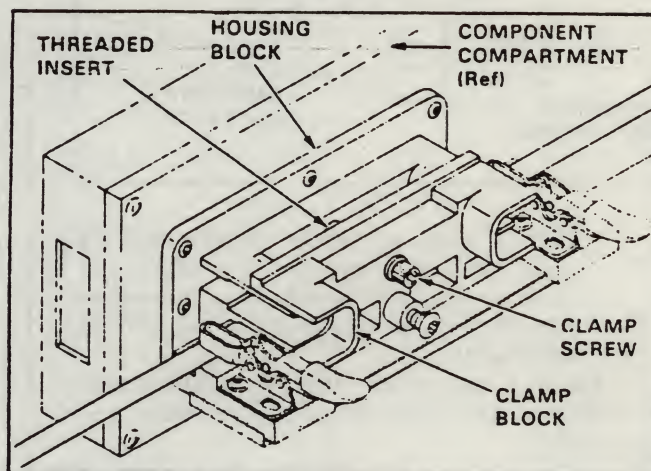

Fig. 10
3. Place clamp block on housing block and thread clamp screw in until the clamp block bottoms (Figure 10).